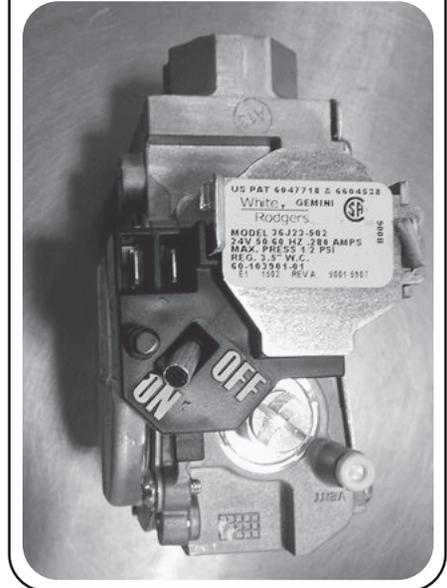

FIGURE 5A
6. Turn manual gas control knob clockwise or set the gas control switch to the "OFF" position. See Figure 5A, 5B or 5C.
7. Wait five (5) minutes to clear out any gas. If you then smell gas, STOP! If you don't smell gas, go to the next step.
4. Turn the gas control knob or set the gas control switch to the "OFF" position. See Figure 5A, 5B, 5C or 5D. NOTE: Furnace will include Honeywell or White Rodgers gas control.